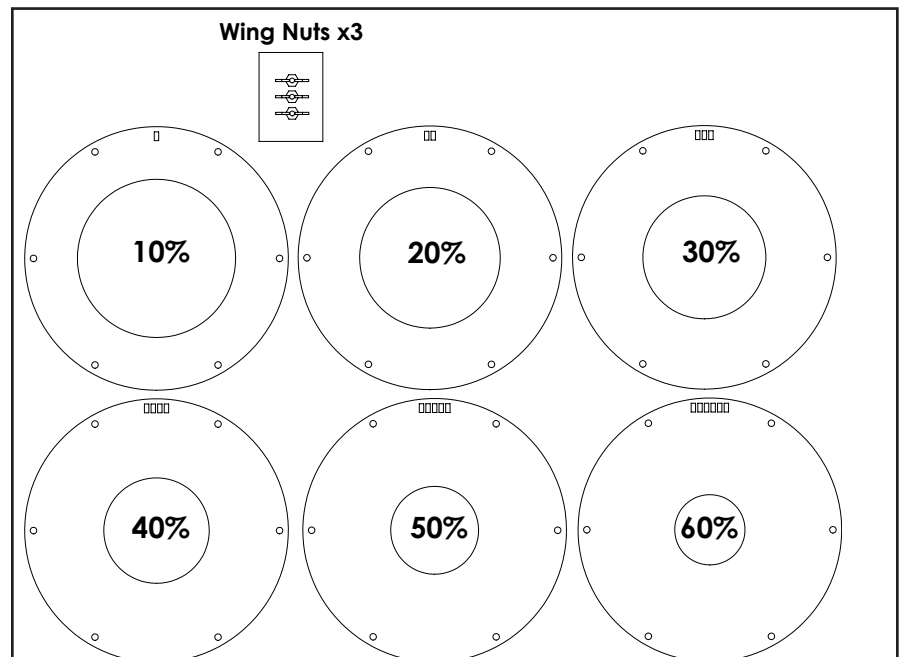

Figure 35. Restrictor Ring Kit
**NOTE:** There are six different restrictor sizes, they are marked with rectangular holes which coincide with the percentage of restriction (Figure 35).